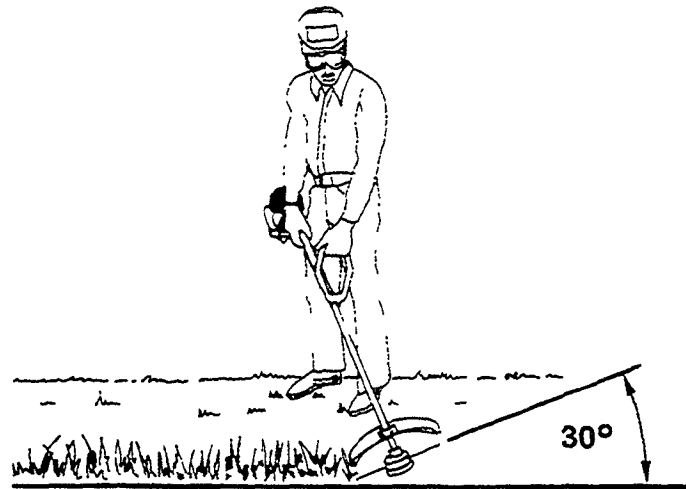

Figure 23
- Hold unit so the rotary head is at an approx. 30° angle to the ground (Fig. 23).
- Cut from left to right with the engine at full throttle. so that clippings will be thrown away from you (Fig. 23).